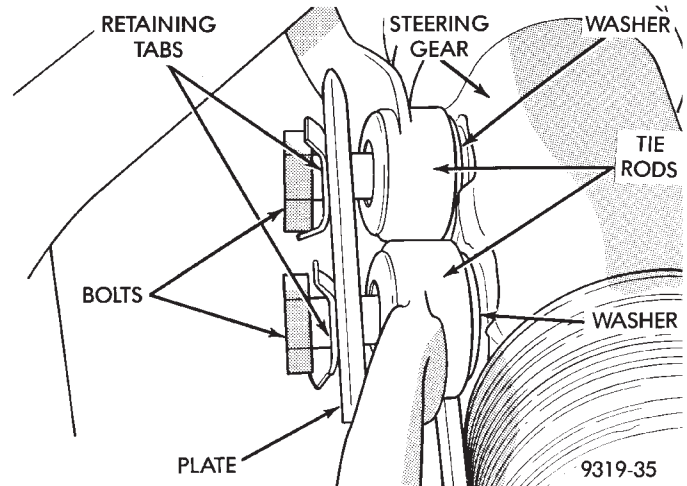

Fig. 10 Tie Rod Attachment To Steering Gear
(15) Position the front tires of the vehicle so that they are facing straight ahead. Bend back retaining tabs on bolts attaching tie rods to steering gear. Loosen and remove bolts attaching tie rods to steering gear (Fig. 10). Lay tie rods, bolts and plate as an assembly on bell housing of transaxle.